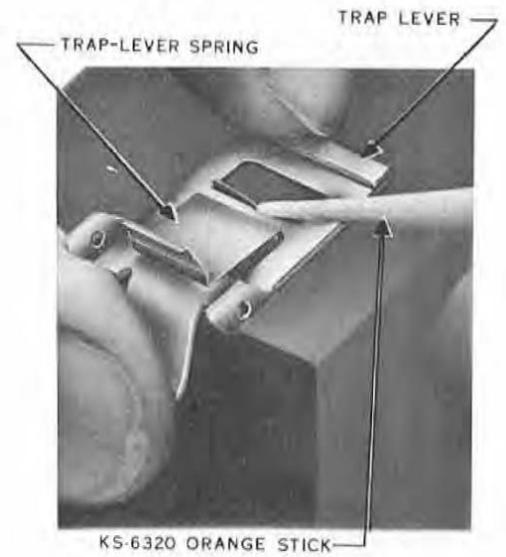

Fig. 8 - Bending Trap-Lever Spring
- (1) Place trap lever and spring on a flat surface (Fig. 8).
- (2) Using a KS-6320 orange stick or a fiber spludger, bend trap-lever spring around center bar of trap lever (Fig. 8 and 9).